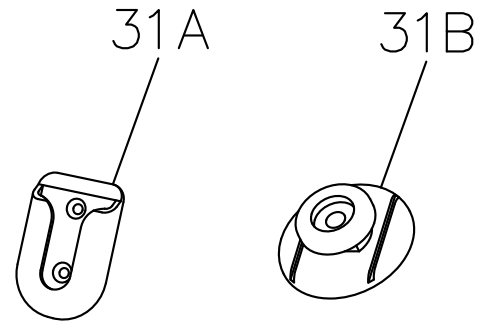

**Figure 5.** Switch Box Control Mounting Diagram G10904
2. Loosely assemble the Switch Box Control Mounting Brackets (28A) to the U-bolts (28C & 28D) below the handlebar using four 1/4"-20 Self-Locking Nuts (28E) as shown in Figure 5.
3. Align the Switch Box Control (25) with the Control Mounting Brackets (28A) under the control cluster. Assemble using four 1/4" Star Washers (28B) and two 1/4"-20 x 7/16" Thumb Screws (28G).
4. Adjust Switch Box Control (25) to desired position. Tighten all mounting fasteners.